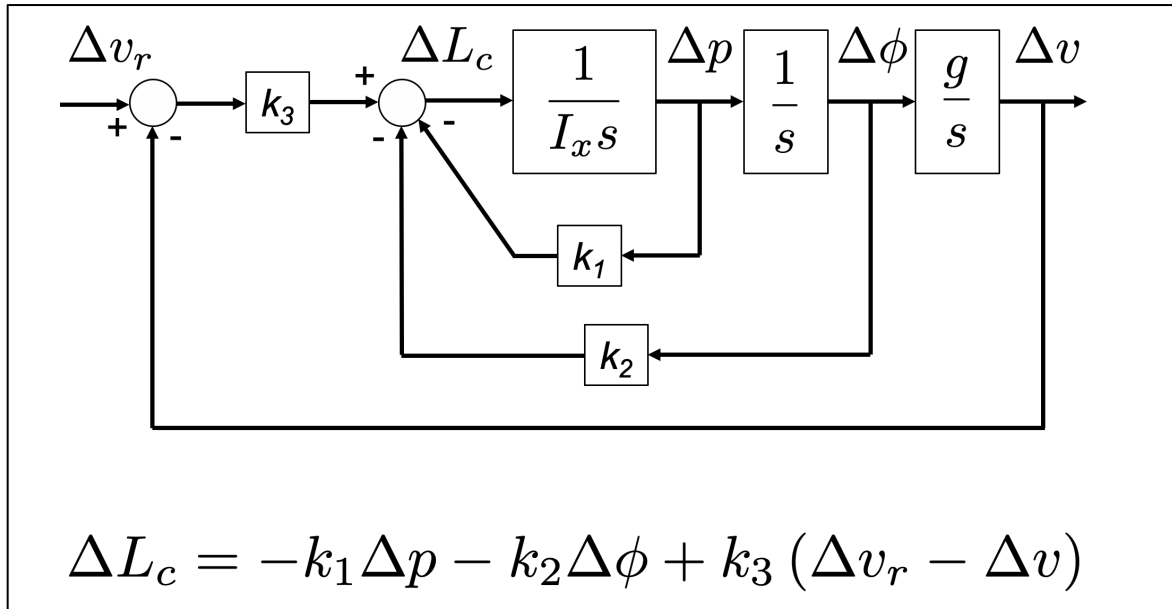

Figure 1. The block diagram for the lateral speed guidance of a quadrotor aircraft.
4. Using the feedback control gains K_1 and K_2 designed in Problem 1 for the linearized lateral and longitudinal rotation dynamics of the quadrotor as an “inner loop” control law, arranged so that the roll and pitch angles track their corresponding reference angles, design an “outer loop” tracking control law with gain K_3 to cause the translational inertial velocity components to track corresponding reference commands, as shown in the block diagram (Figure 1) for the linearized lateral set. Design K_3 so that the closed loop three-state systems (lateral and longitudinal) have real eigenvalues, with corresponding modal time constants no larger than 1.25 sec. Use Matlab’s `eig` function to find the eigenvalues of the system for a range of gains K_3 and plot the locus of these eigenvalues in the complex plane. Use this locus to determine gain values that satisfy the design objectives. Pay careful attention to the sign of K_3 in the longitudinal set.